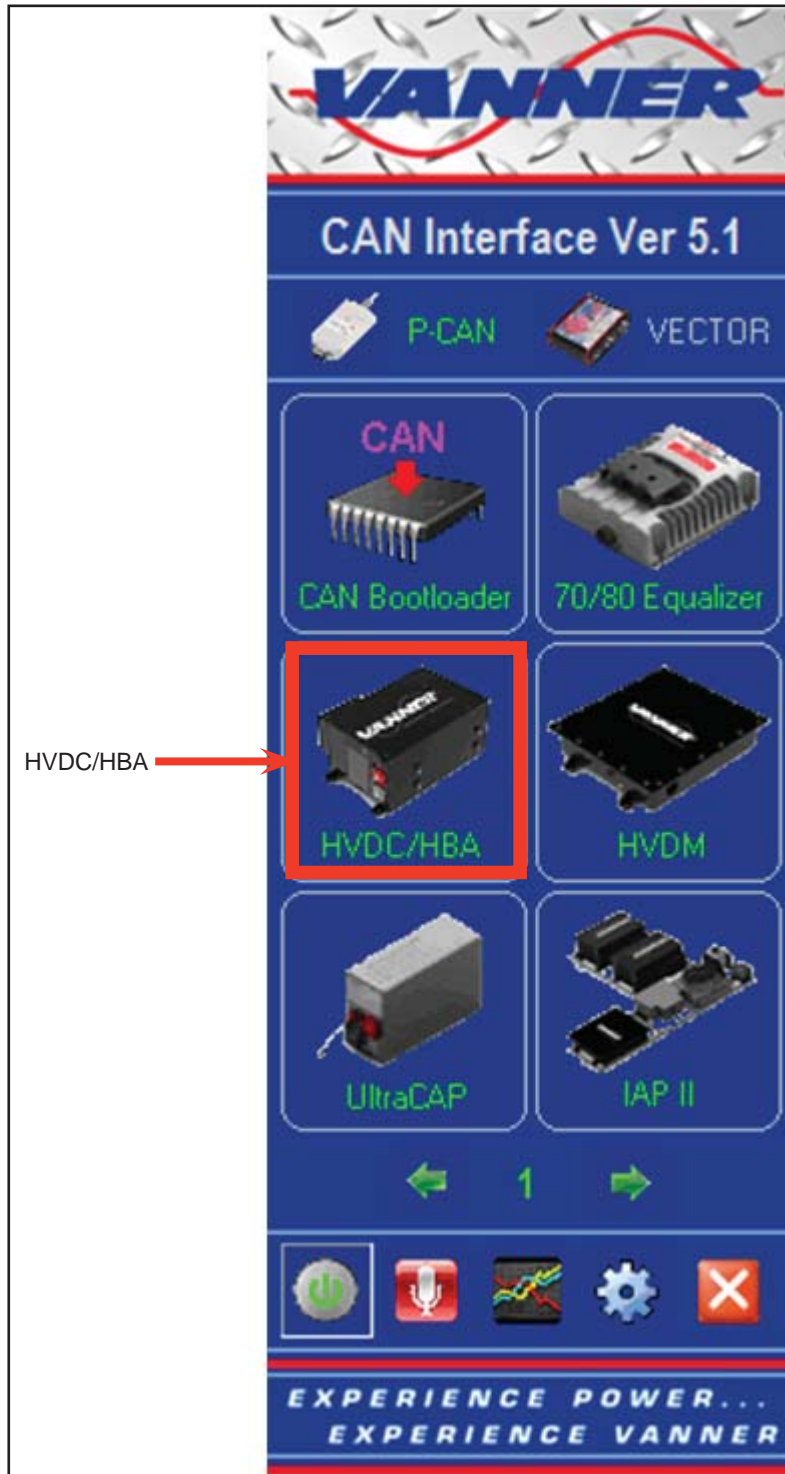

Figure 2 - Typical View of Vanner Dashboard Interface
1.4. Open Vanner dashboard interface and select HVDC/HBA (see Figure 2).